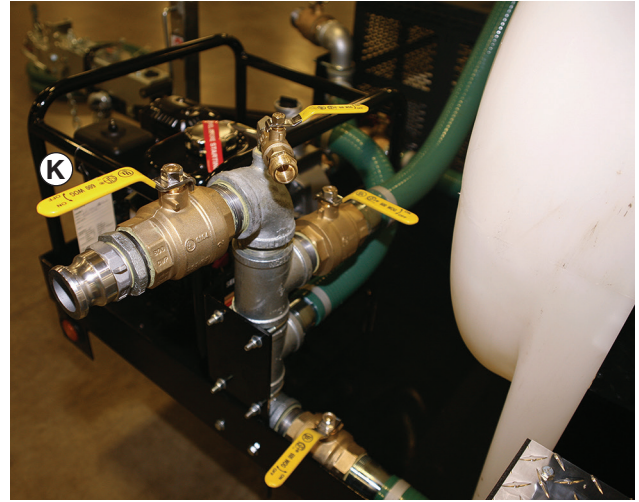

Figure 11
To use the fire hose, quick couple the fire hose (E) (figure 3) to valve (K), open valve (K) with valves (L), (M) and (N) closed (figure 11).